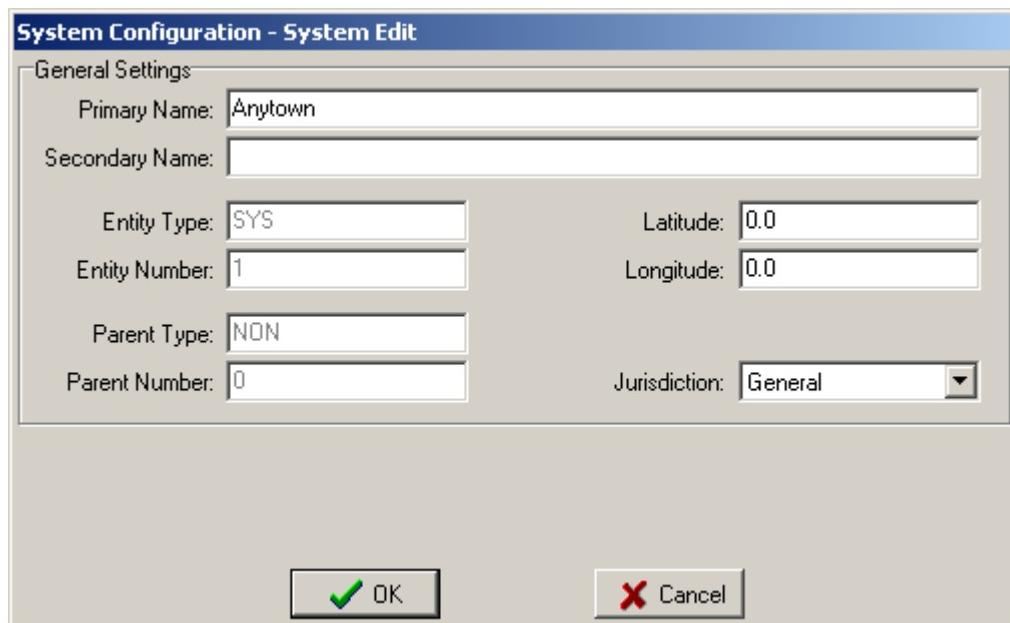

Figure 4-2: Defining a System
1. Select **Add | New Root Node** from the Configuration Editor menu. Figure 4-2 will then appear.